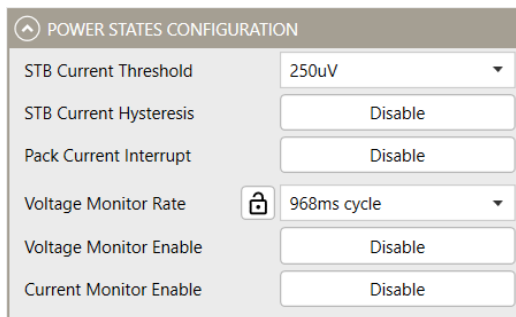

Figure 12: Power Status Configuration
7. Figure 12 shows how to configure the power status.